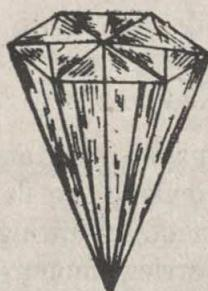

Fig. 1.6. Cut and polished diamond.
(2) It is transparent to light and possesses high refractive index (=2.45). This is why a diamond sparkles brightly, when suitably cut and polished (Fig. 1.6).